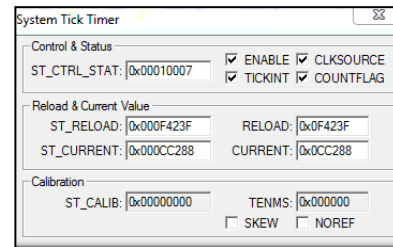

Fig. 16: System Tick Timer Window
2. To open the System Tick Timer window, in the main menu select Peripherals >> Core Peripherals >> System Tick Timer. A window will appear resembling Fig. 16.